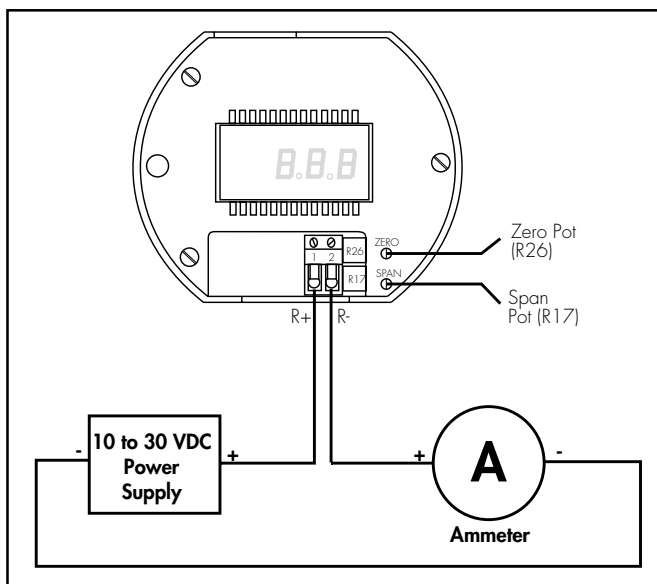

Figure 3
1. Connect power supply to transmitter input placing an ammeter in series with the input power, see Figure 3.